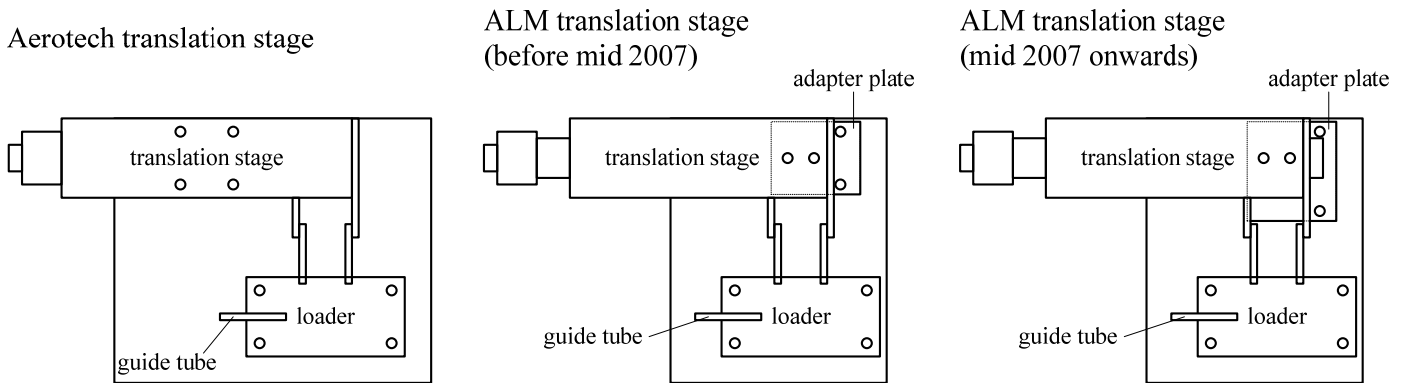

Figure 2: Orientation for mounting the translation stage and loader assembly on the base plate for the Aerotech and ALM translation stages.
3. [Aerotech] Remove the top mounting plate by removing the four  $\frac{1}{4}$ -20 stainless steel bolts. Remove the mounting plate below by removing four #4/40 screws. This exposes the translation stage lead screw. The platform can be moved by turning the knurled knob on the motor to expose the four  $\frac{1}{4}$ " diameter mounting holes in the base of the stage. Mount the translation stage on the hex standoffs as shown in Figure 2, using four  $\frac{1}{4}$ -20 $\times$  $\frac{3}{8}$ " bolts. Replace the mounting plate and top plate on the translation stage.
3. [ALM] Attach the adapter plate to the underside of the translation stage using two 10-32 $\times$  $\frac{1}{2}$ " screws. Now attach the adapter plate to two of the hex standoffs using two  $\frac{1}{4}$ -20 $\times$  $\frac{5}{8}$ " screws as shown in Figure 2. Note that for systems shipped from mid 2007 onwards the adapter plate is somewhat larger.
4. If they are not already installed, put the single V-groove faceplates on the mounting arms, as shown in Figure 2. Make sure the faceplates are carefully aligned using the instructions in the Two-Point Bend Apparatus manual.
5. Attach the loader assembly to the four longer hex standoffs using four  $\frac{1}{4}$ -20 $\times$  $\frac{3}{8}$ " bolts, as shown in Figure 2. Make sure that the fiber guide tube projects to the left of the loader as shown in the figure.